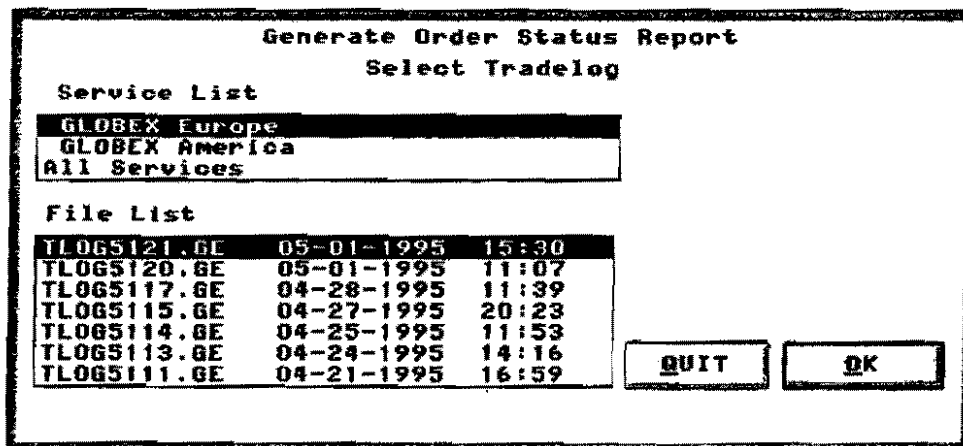

Figure 12.10 Generate Order Status Report Dialog Box
1. Select **Order Status** in the Reports menu to display the dialog box shown in Figure 12.10. The highest priority Service is selected, as is the most recent of up to seven tradelog files displayed in the list. (Tradelog filenames are explained in Section 12.4.2.)